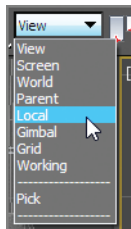

FIGURE 12.7
9. Select Scale in the main toolbar; make sure the coordinate system is set to Local. This will be set for the Scale tool only, as shown in Figure 12.7.
6. Select the right upper arm, Ctrl+click the left upper arm on the biped, and then set the coordinate system for the Move tool to Local, as shown earlier in Figure 12.7.